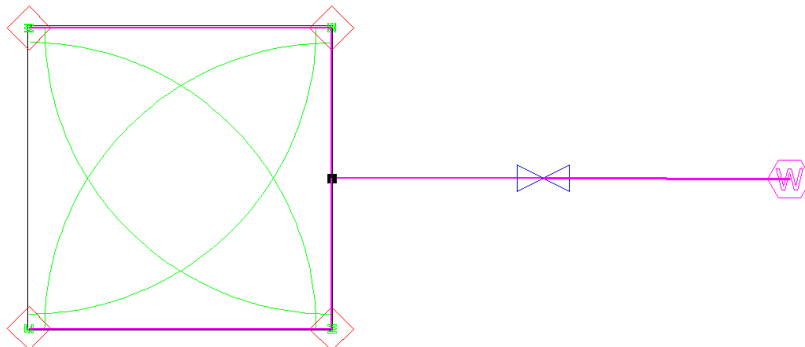

Figure ST 8
15. Select *Mainline|Pipe* and left-click on the valve, then left-click on the water supply. *Right-Click|Restart*. See Figure ST 8.